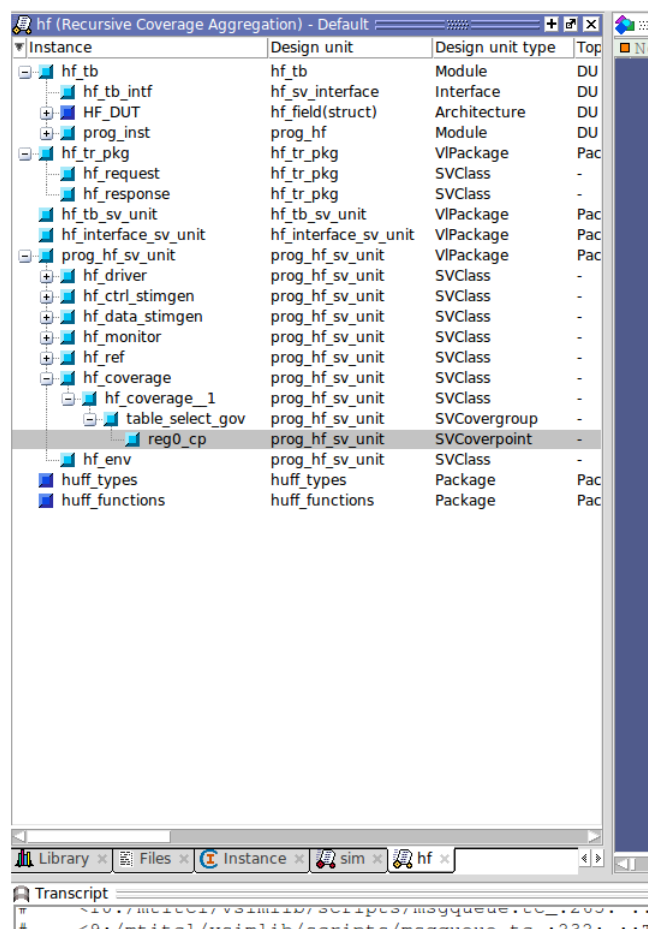

Figure 1: Objects Paths in Questa
3. In Questa GUI you can find hierarichal structure of all your simulation objects as shown in figure 1.